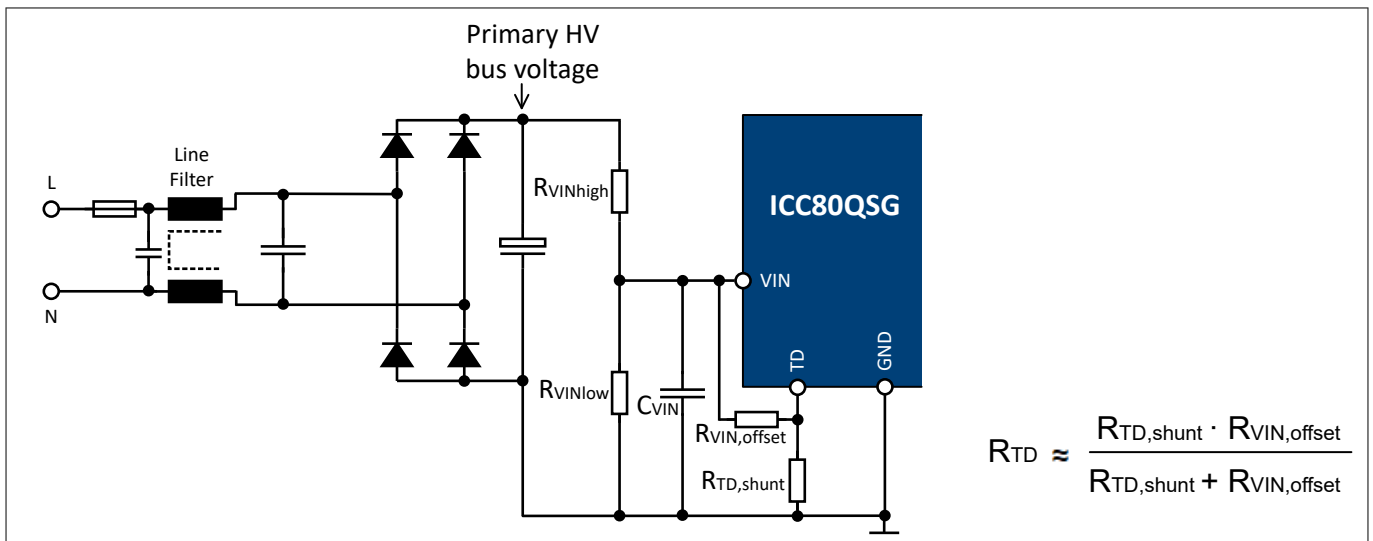
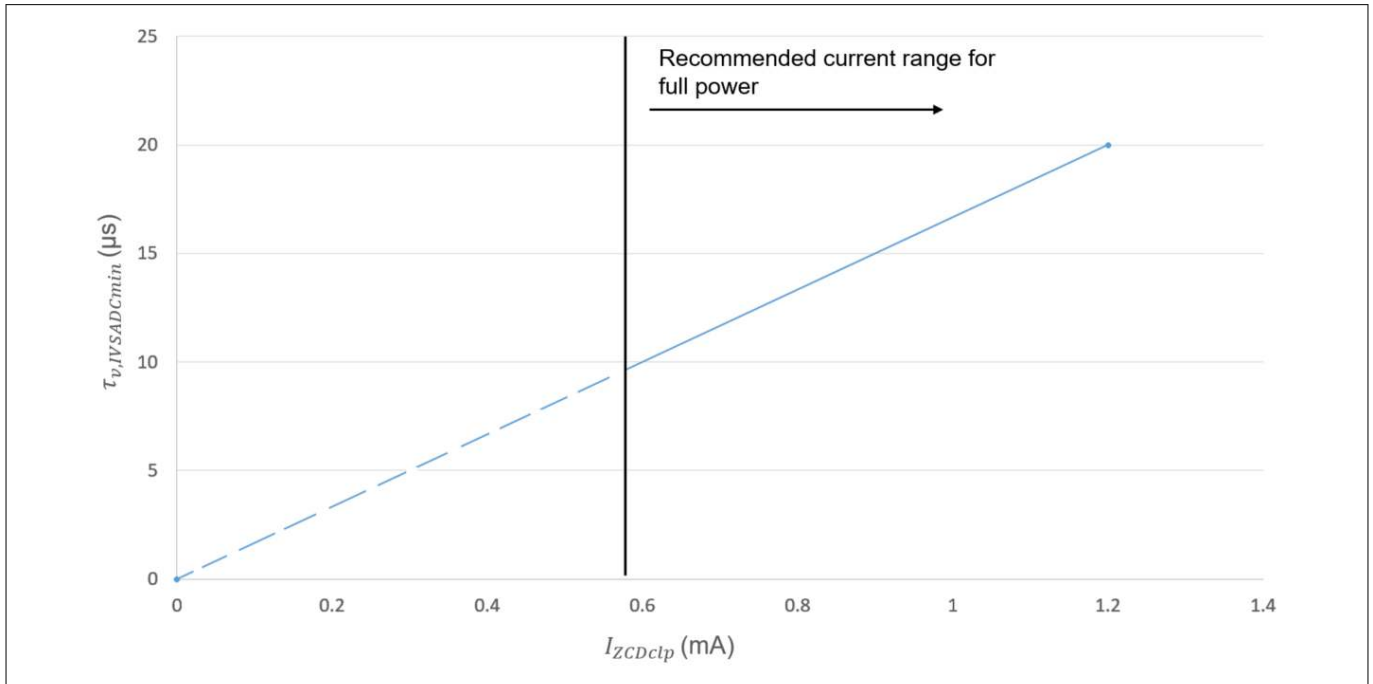
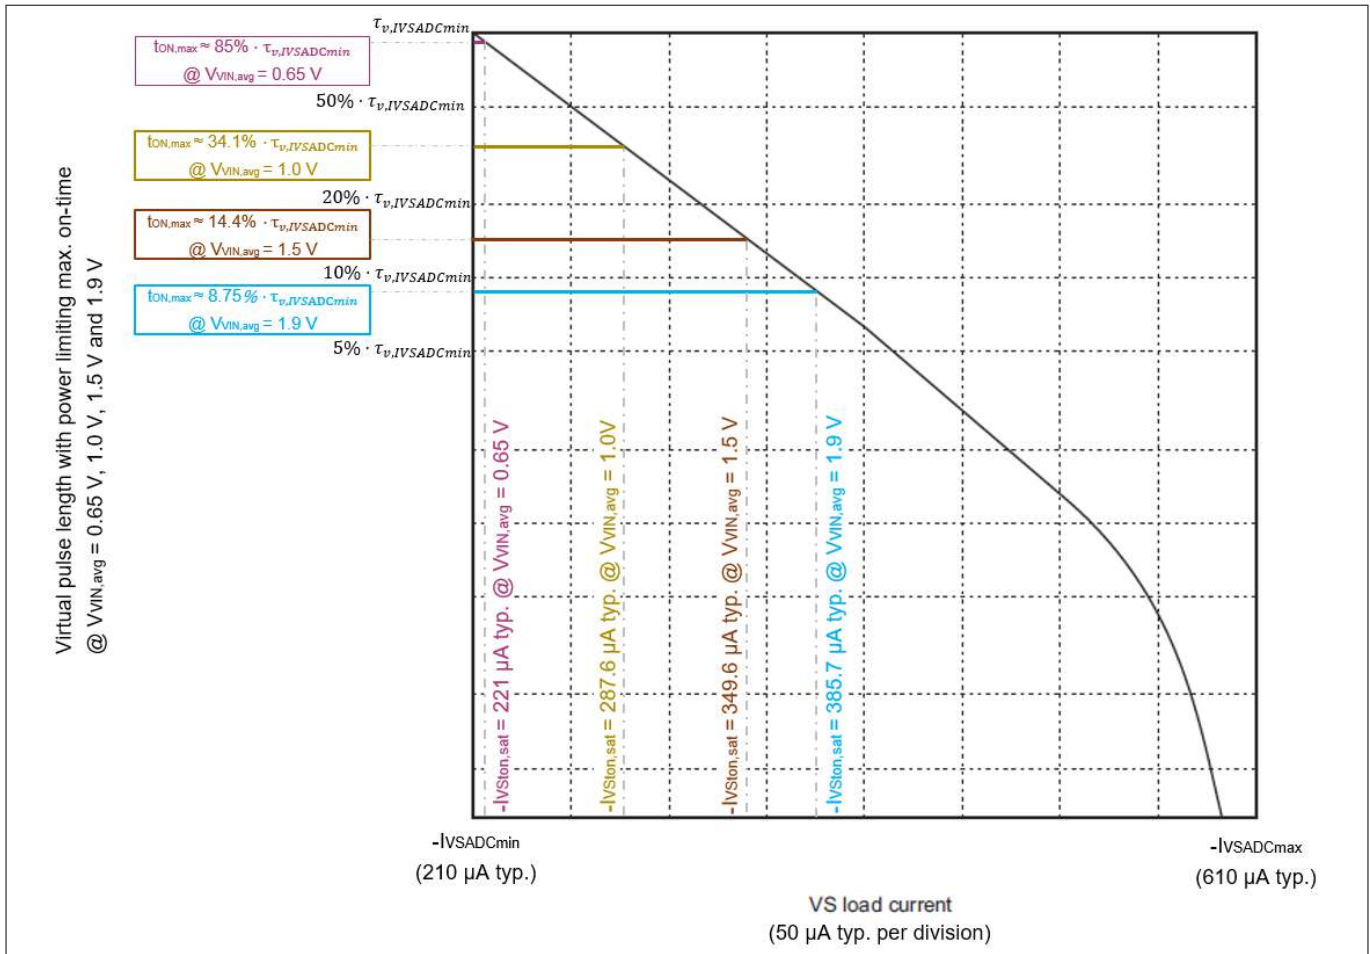

Figure 5 V_{IN} pin circuit
Figure 12 Virtual pulse length at $I_{VSADCmin}$, $\tau_{v,IVSADCmin}$ versus ZCD peak to peak settled clamping current, I_{ZCDclp}
Figure 13 Virtual pulse length mapping with power limiting maximum on-time effect
At higher power transfer, the primary bus voltage ripple is higher, and $V_{VIN,avg}$ becomes lower. As a result, a relatively higher AC input brownout protection level can be triggered at higher power transfer, to better protect the primary components from overheating and saturation in case of input under-voltage condition occurs. Apart from that, the hysteresis between AC input brownin and brownout level can be added externally with $R_{VIN,offset}$, as shown in Figure 5. It works by creating an offset voltage on the V_{IN} pin when the TD pin internal pull-up is enabled in RUN state.
When the $R_{VIN,offset}$ is connected between TD pin and V_{IN} pin, R_{TD} can be approximated based on the equation shown in Figure 5. The R_{TD} detected in the pre-start-up phase must be designed to be at least 27 kΩ when TD pin is internally pulled up by $R_{TD,RUN}$, and not more than 68 kΩ when TD pin is internally pulled up by $R_{TD,flyback}$, to activate the VS pin load current sensing for output regulation and stay within the TD configuration limit.
Based on Equation 4, the equation for R_{TD} approximation in Figure 5 can be derived, when a resistor $R_{VIN,offset}$ is added between VIN pin and TD pin to configure the brownin and brownout hysteresis.
1. Based on $I_{ZCDclp} = 1.2 \text{ mA}$, obtain $\tau_{v,IVSADCmin} = 20 \mu\text{s}$ from Figure 12.
For $t_{ON,max}$ estimation, it is important to note that $\tau_{v,IVSADCmin}$ changes with different $V_{VIN,avg}$ level, when the input voltage detection circuit in Figure 5 is applied. This is because $\tau_{v,IVSADCmin}$ is scaled depending on I_{ZCDclp} in Figure 12, while I_{ZCDclp} is dependent on the input voltage, as explained in ZCD pin signal sensing.
Figure 13 shows the virtual pulse length with the power limiting maximum on-time effect, when $V_{VIN,avg}$ is 0.65 V, 1.0 V, 1.5 V and 1.9 V, respectively.
When $V_{VIN,avg}$ is at the brownin level ($V_{BI} = 0.647$ V typ.), the power limitation is enabled with $t_{ON,max} =$ approx. 85% of $\tau_{v,IVSADCmin}$, as shown in Figure 13. For example, if the desired $t_{ON,max}$ at brownin level is 17 μ s typ., it is necessary to have $\tau_{v,IVSADCmin} = 17 \mu$ s / 85% = 20 μ s. And, according to Figure 12, $\tau_{v,IVSADCmin} = 20 \mu$ s is obtained when $I_{ZCDclp} = 1.2$ mA is applied. As a result, to achieve $t_{ON,max} = 17 \mu$ s typ. at brownin level, R_{ZCD} should be dimensioned to produce $I_{ZCDclp} = 1.2$ mA typ. at brownin level.